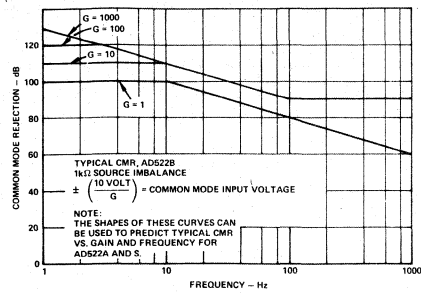

Figure 5. Common Mode Rejection vs. Frequency and Gain
**Common Mode Rejection:** CMR is rated at  $\pm 10\text{V}$  and  $1\text{k}\Omega$  source imbalance. At lower gains, CMR depends mainly on thin-film resistor stability but due to gain-bandwidth considerations, is relatively constant with frequency to beyond  $60\text{Hz}$ . The dc CMR improves with increasing gain and is increasingly subject to phase shifts in limited bandwidth high-gain amplifiers. Figure 5 illustrates CMR vs. Gain and Frequency.